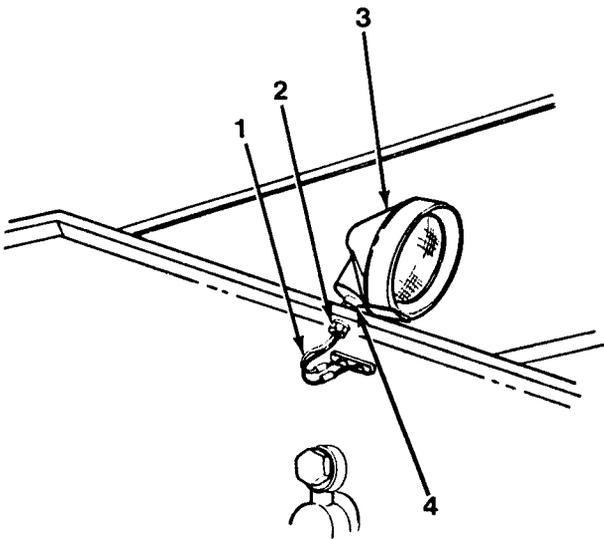

Figure 10-1
2. Disconnect two wires (1) from work light (3, Figure 10-1).
3. Remove nut (2), work light (3) and spacer (4) from boom.